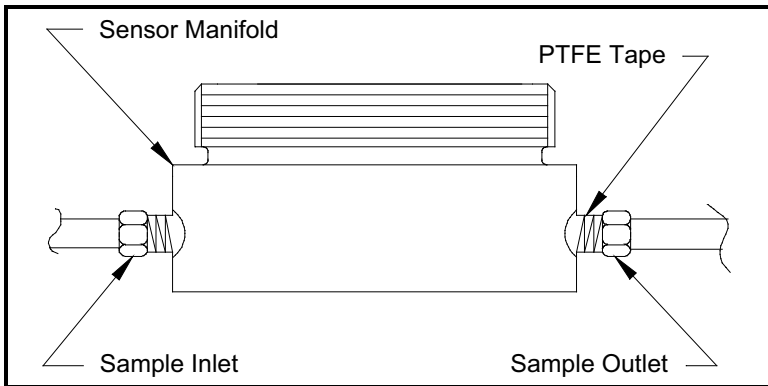

**Figure 3: Packaged Oxygen Sensor**
1. Remove the oxy.IQ and the separately-packaged oxygen sensor (see *Figure 3* below) from the shipping container. Keep the shipping container and packaging material for possible future use.
5. Open the airtight package (see *Figure 3 on page 4*) and remove the oxygen sensor from the package. To maintain the oxygen sensor's energy level, remove the red grounding tab and **immediately** proceed to the next step.